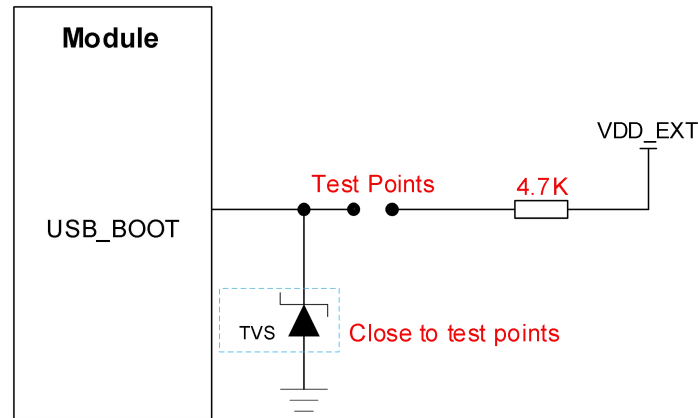

Figure 17: Reference Design of USB_BOOT
3. If you need to manually force the module to enter forced download mode, directly connect the test points shown in **Figure 17**.